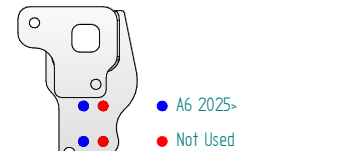

Figure 3
9. Remove the rear impact beam, seven fixings. **Note:** This is not refitted with the Towbar assembly. Replace the fixings into rear panel and as per **Figure 3** replace the offside upper inner fixing into the rear panel using item **H** with items **L** to prevent water ingress. Refit the **GSM** sensor bracket.